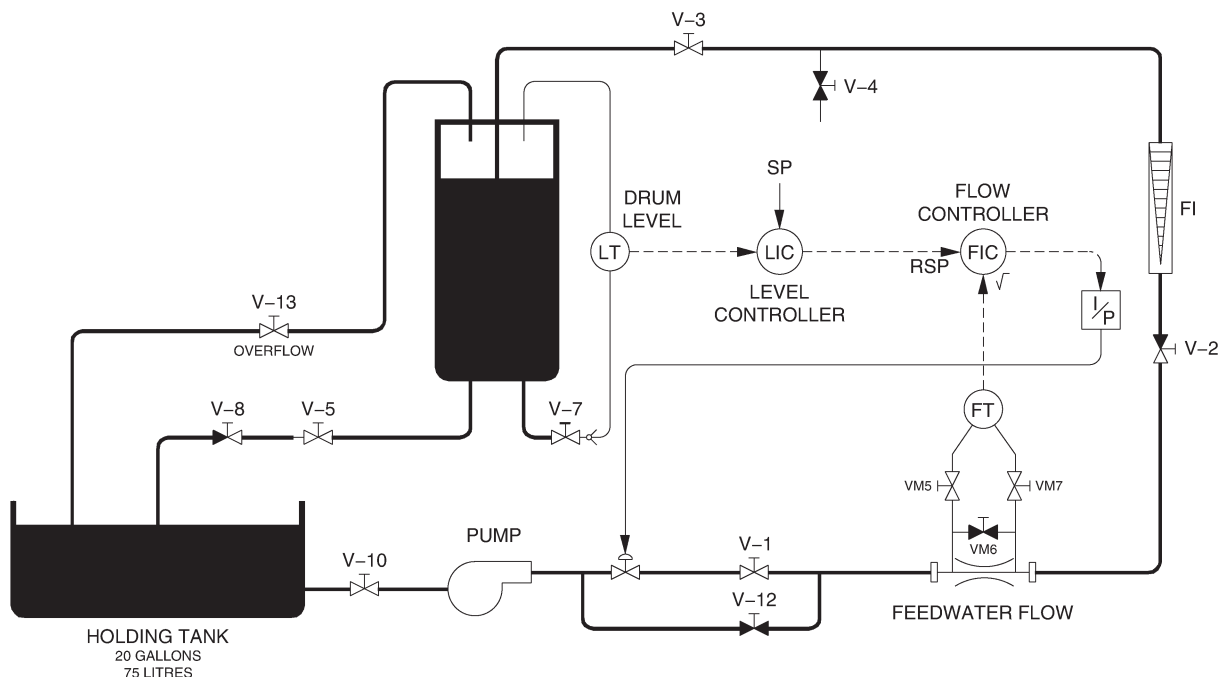

Figure 20-2. Two Element Boiler Drum Level Control.
In the second part of the exercise, set the controller for cascade mode as shown in Figure 20-2.
- 1. Set up and connect the equipment as shown in Figure 20-2.
In this exercise, you will not be given a semi-pictorial diagram to make connections. If you have trouble understanding the Piping and Instrument Diagram shown in Figure 20-2, refer back to the diagrams shown in Exercises 14 and 15.